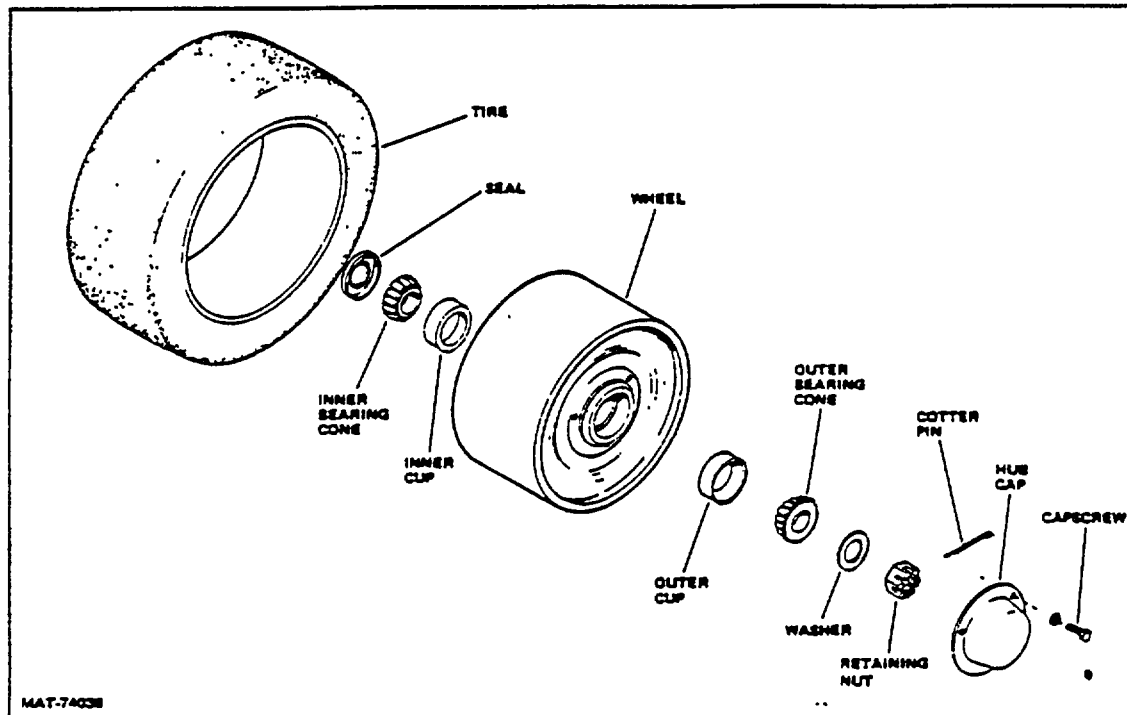

Figure 35. Steer Wheel Assembly
2. Remove the capscrews and lockwashers that secure the hub cap to the wheel and remove the hub cap (Fig. 35).